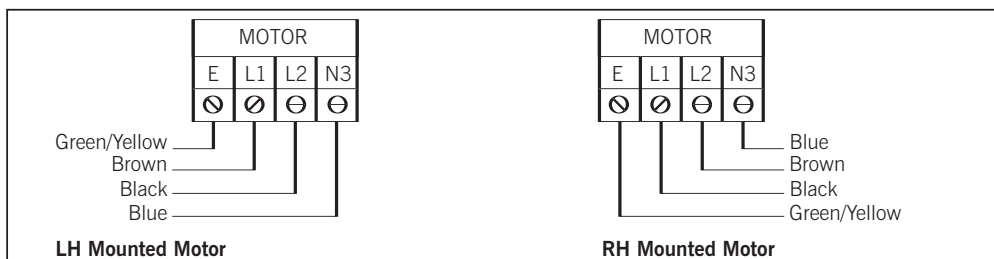

Fig 30
9.1.4 Turn power ON and operate the START button. Ensure the curtain is moving in the OPEN direction. **IF THIS IS NOT CORRECT STOP IMMEDIATELY.** Switch off power and interchange the motor wires at terminals L1, L2 (see Fig 30). Switch power back on and operate start button again, curtain should move in correct OPEN direction.